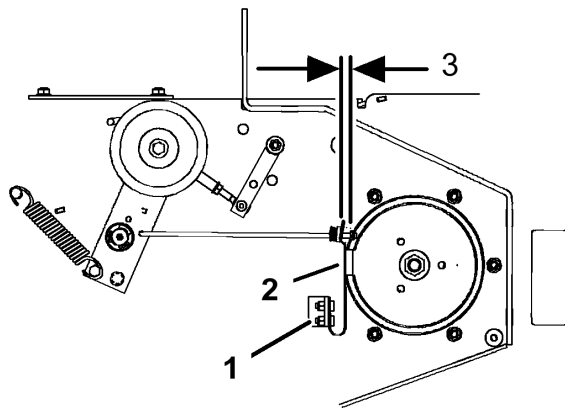

Figure 60
3. If necessary, adjust the spring mounting bolts so that the blade brake pad rubs against both sides of the pulley groove (Figure 60).
4. Adjust the nut at the end of the blade brake rod until there is 1/8-3/16 inch (3 mm -5 mm) between the nut and spacer (Figure 60).